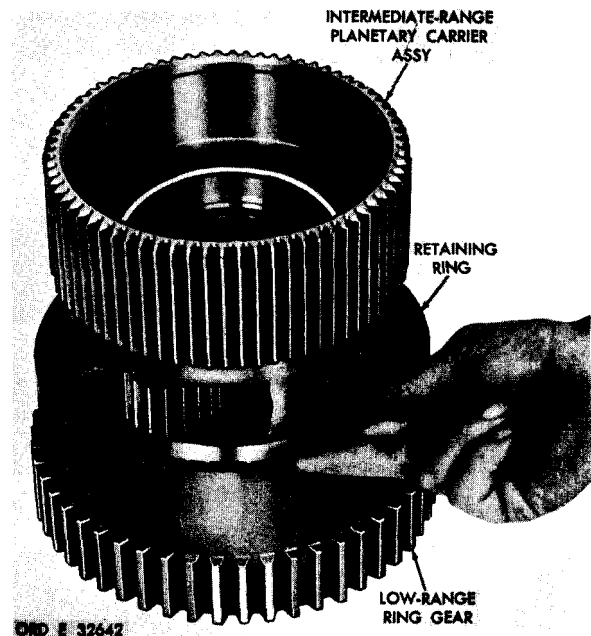

Figure 223. Removing (or installing) retaining ring that retains intermediate-range planetary carrier assembly
a. Remove retaining ring that retains the intermediate-range planetary carrier assembly in the low-range ring gear (fig. 223). Remove the carrier assembly.
**\*CP** l. Install the intermediate-range planetary carrier assembly onto the low-range ring gear. Install the retaining ring (fig. 223).